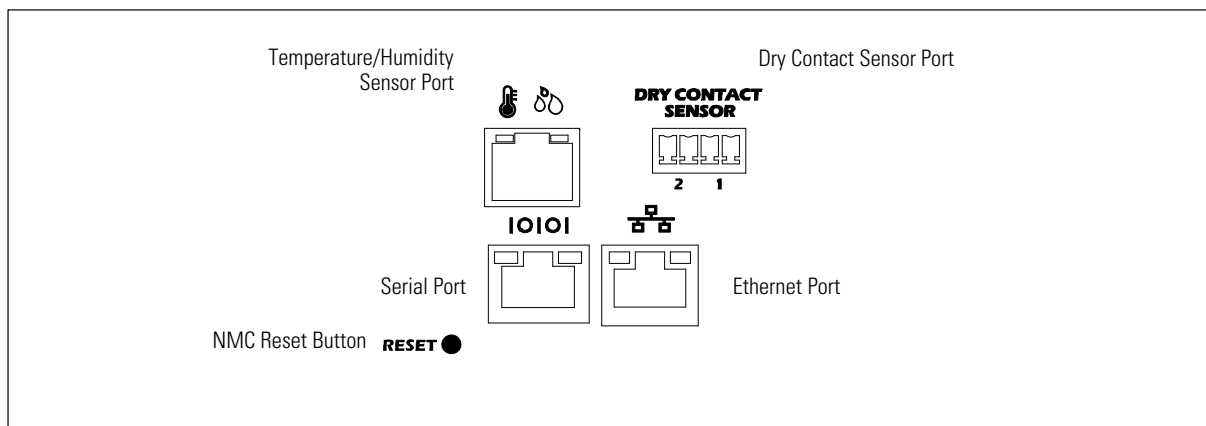

Figure 18. Communication and Environmental Ports
Two types of external signaling ports are provided on the rPDU front panel (see Figure 18):
- 2 Connect the RJ-45 serial cable connector to the rPDU serial communication port (see Figure 18).
- 3 Connect the Ethernet cable to the Ethernet connection port on the rPDU (see Figure 18).
Install and set up the sensor as instructed in the installation documentation on www.dell.com. Connect the appropriate end of the temperature-only or combined temperature and humidity sensor cable to the temperature/humidity sensor port on the rPDU (see Figure 18).
Install and set up the dry contact sensor as instructed in the installation documentation on www.dell.com. Connect the dry contact sensor to the appropriate port on the rPDU (see Figure 18).